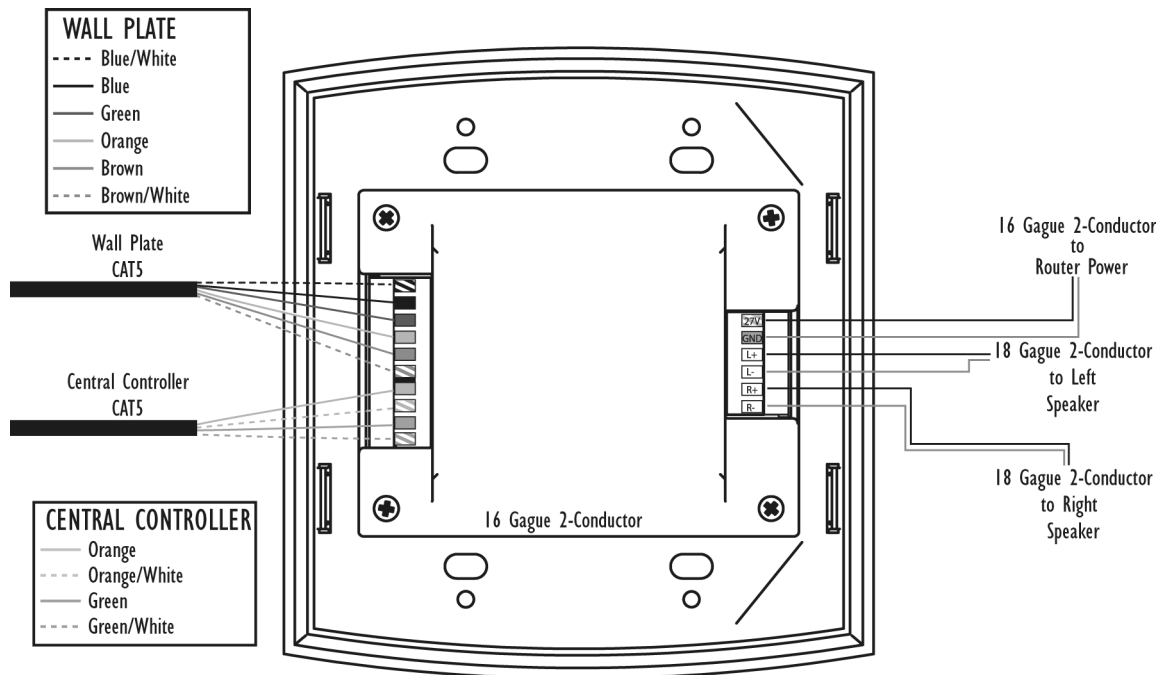

Figure 10—Zone Keypad Wiring
Figure 10 shows the wiring hookups for the backside connectors of the Zone Keypad (XDM46K).
- CAT-5 cables are shown connecting the Expansion Hub to the keypads and the keypads to the local audio source wall plates. Refer to figure 10 under the installing the zone keypads section of the manual.